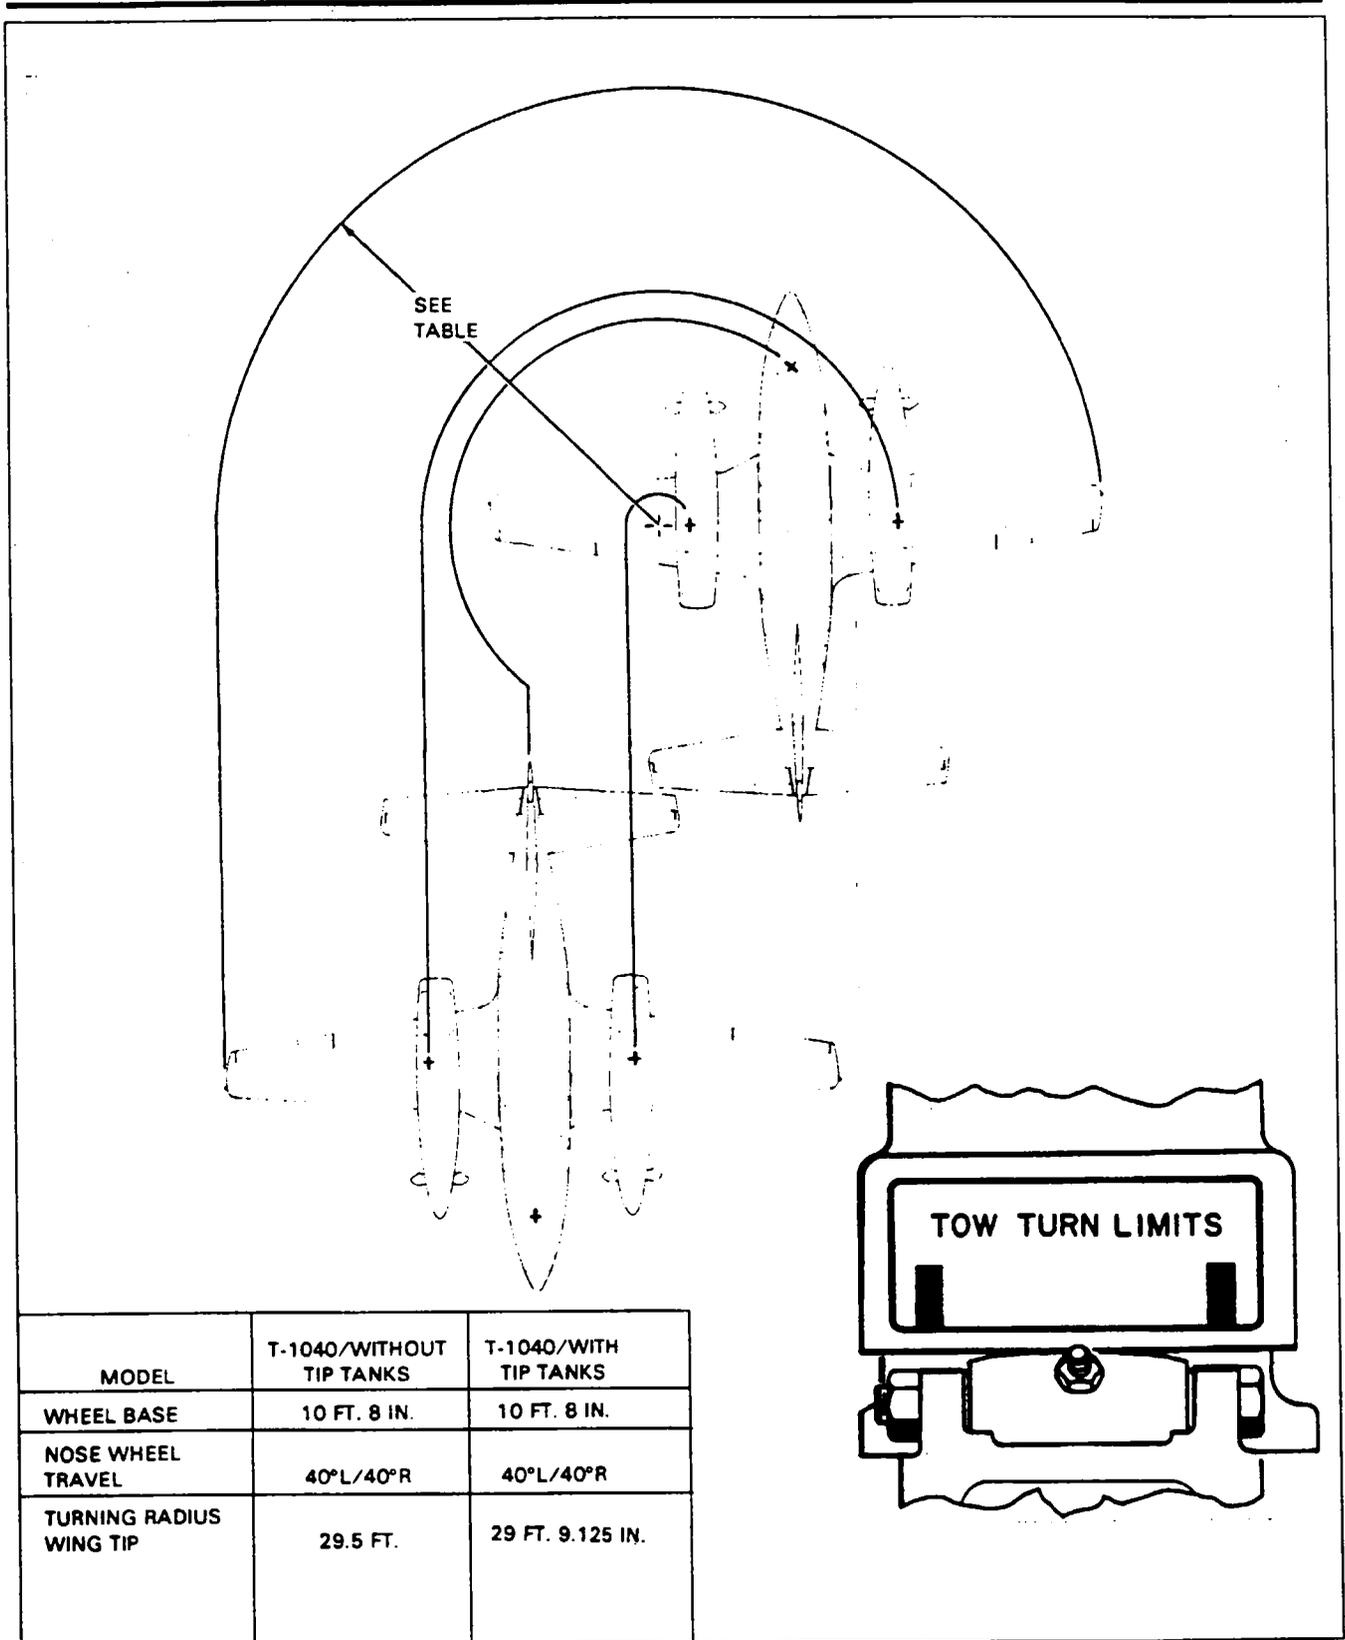

Figure 9-1. Turning Radius and Limits
Before attempting to tow or taxi the airplane, ground personnel should be checked out by a qualified pilot or others responsible person on the tow turning limits of the nose gear, engine starting and shutdown procedures and any other system functions which may be required to properly and safely move the airplane. (Refer to Figure 9-1.)
*When towing, do not turn the nose gear in either direction beyond its 40 degree arc from center as this will result in damage to the nose gear and steering mechanism. A placard is installed on the nose gear strut to indicate turn limits. (Refer to Figure 9-1.) Also do not tow airplane with control locks installed.*